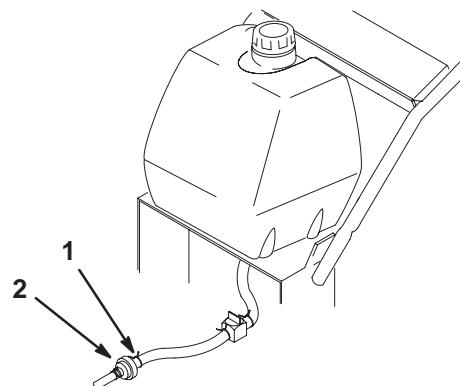

Figure 48
4. Squeeze the ends of the hose clamps together and slide them away from the filter (Fig. 48).